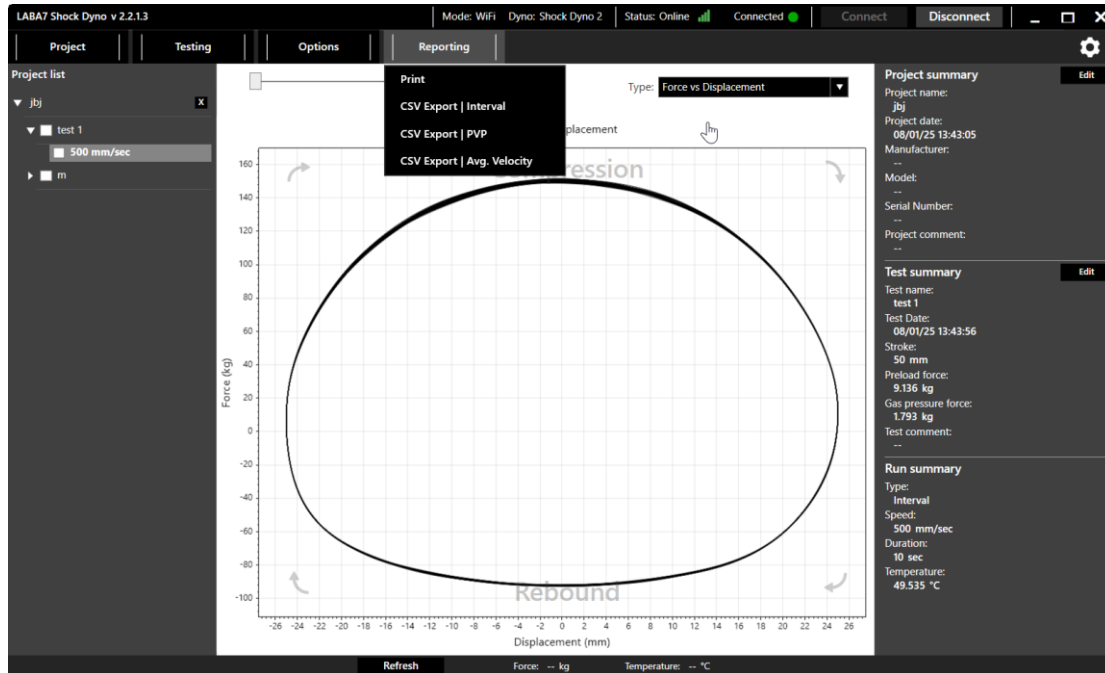

Figure 40
2. Press reporting (fig.40).
2. Press “reporting” (fig.40).